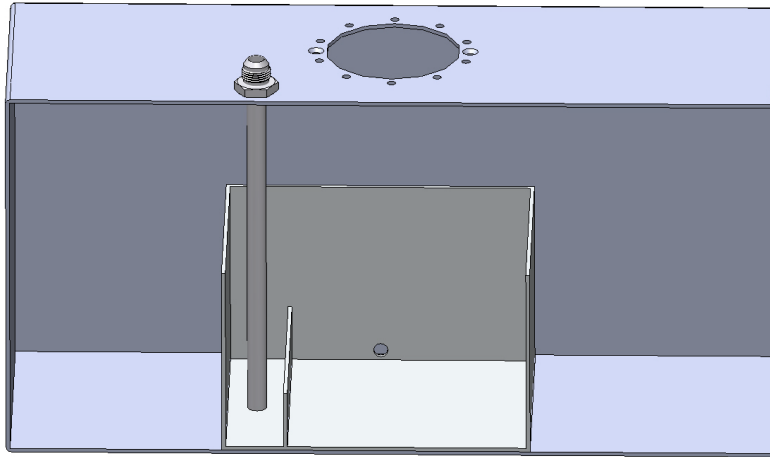

FIGURE 1-4
6. Typical position for the baffle box is below the fuel pump cut out although they can be mounted apart. For this illustration we will use the most common. Position the baffle box below the fuel pump cut out and secure it to the floor of the tank. When finished it should look as shown in **Figure 1-4**.